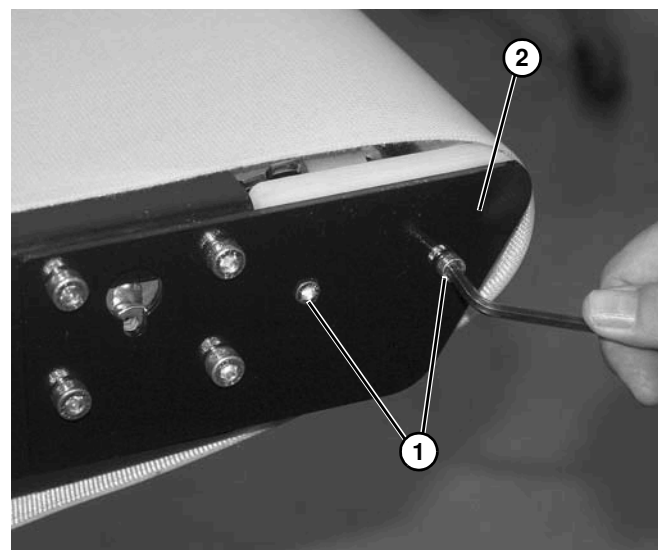

Figure 128
2. Remove two screws (**Figure 128, item 1**) from nose bar tail (**Figure 128, item 2**) on both sides of conveyor.